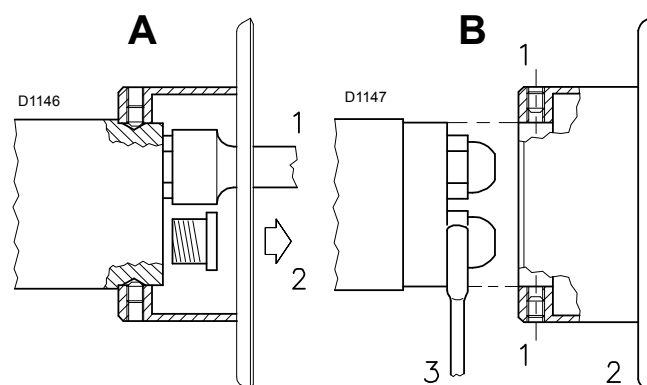

Fig. 16
- Assemble the two nozzles with the socket spanner 1) (A Fig. 16) (16mm), after removing the plastic plugs 2) (A Fig. 16), passing from the central opening of the flame stability disc. Alternatively, loosen the screws 1)(B Fig. 16), remove the disc 2)(B Fig. 16), and replace the nozzles using the spanner 3)(B Fig. 16).